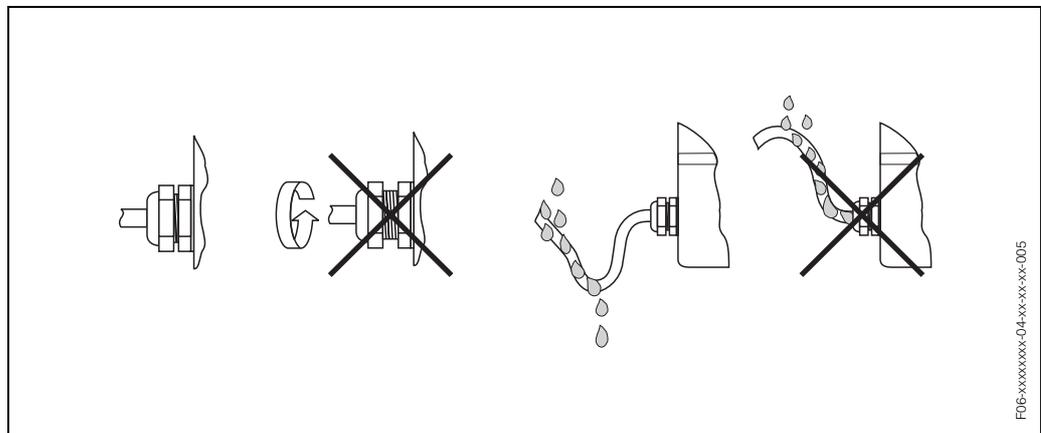

Fig. 37: Installation instructions, cable entries
- Firmly tighten the cable entries (Fig. 37).
- The cables must loop down before they enter the cable entries ("water trap", Fig. 37). This arrangement prevents moisture penetrating the entry. Always install the measuring device in such a way that the cable entries do not point up.